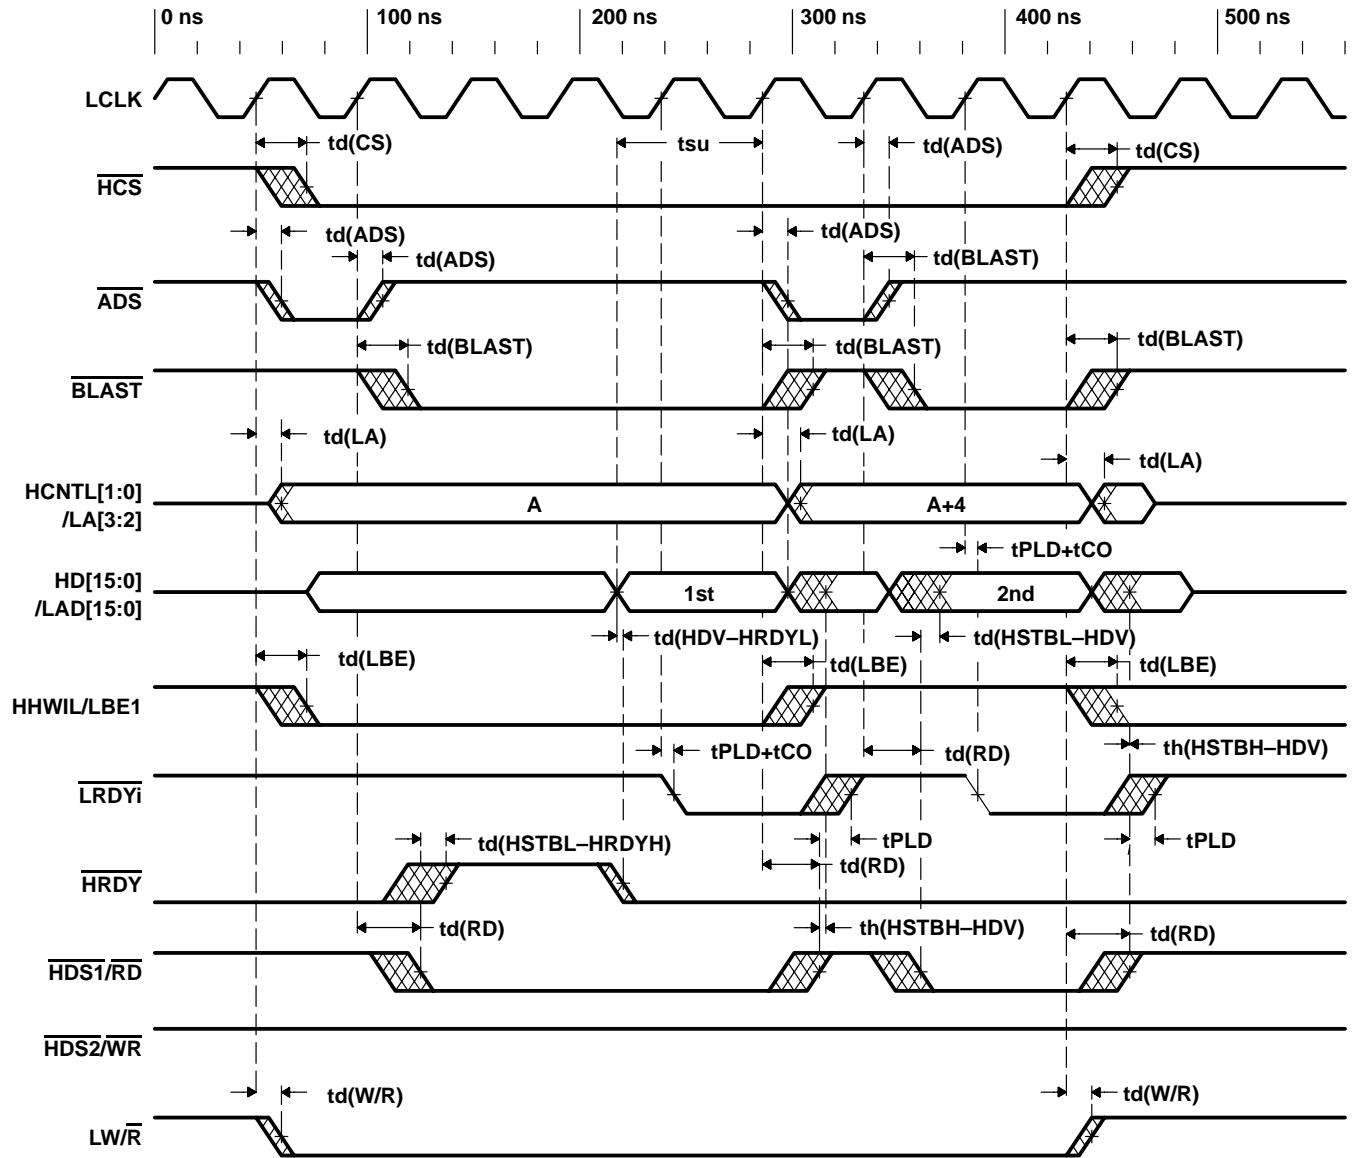
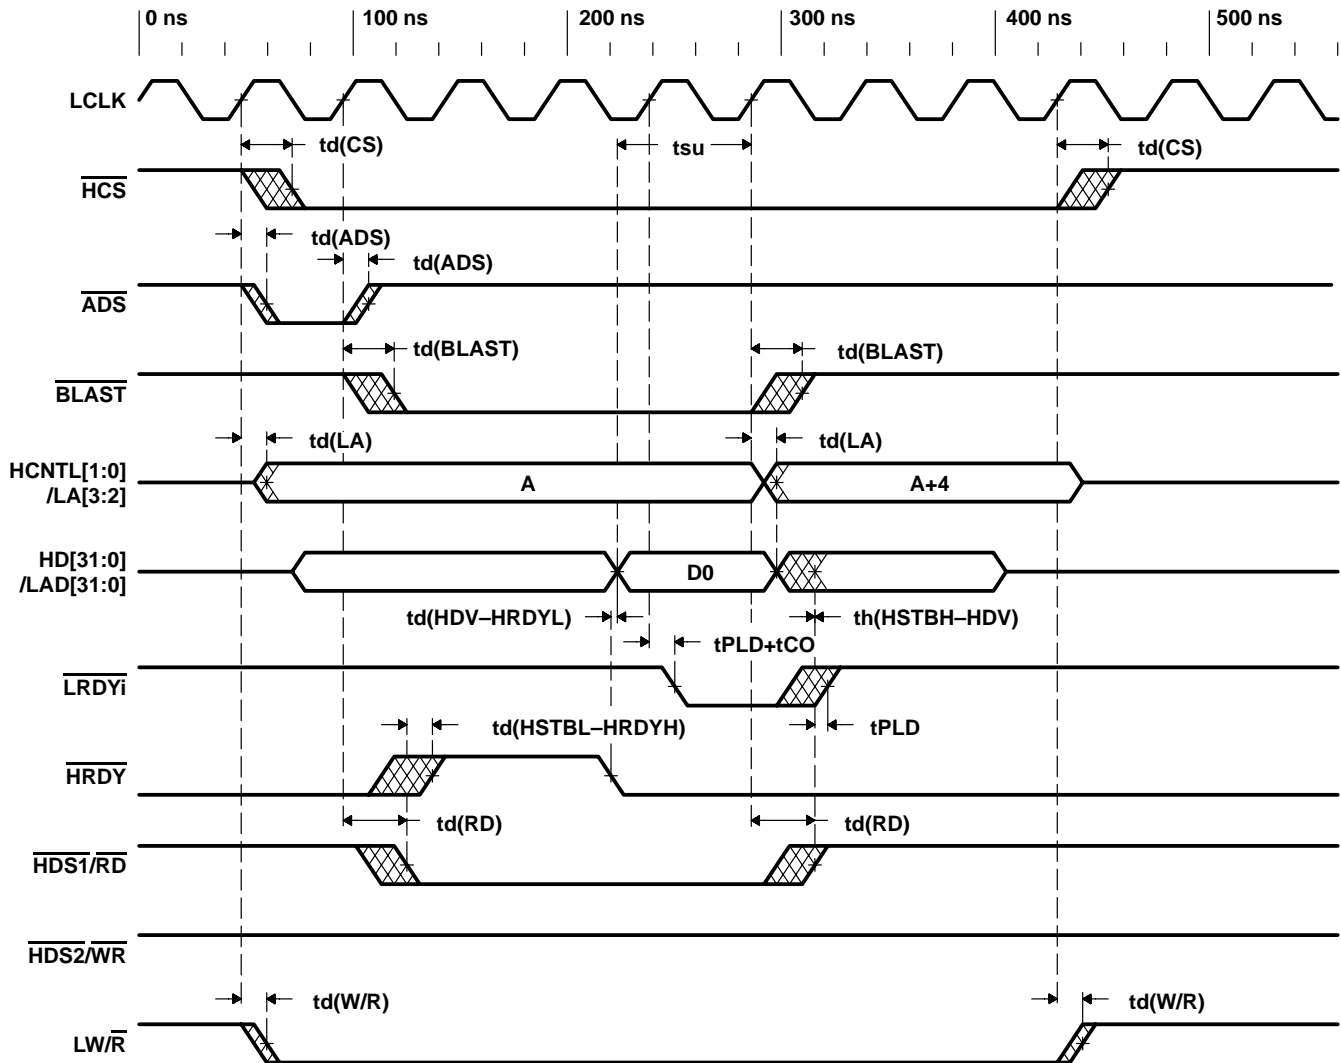

Figure 4. PCI9050 Read From TMS320C6000 DSP Internal Memory Using the HPI (16-Bit)
Figure 5. PCI9050 Read From TMS320C64x DSP Internal Memory Using the HPI (32-Bit)
2. a PCI9050 read from the HPI (Table 3, Figure 4, and Figure 5)